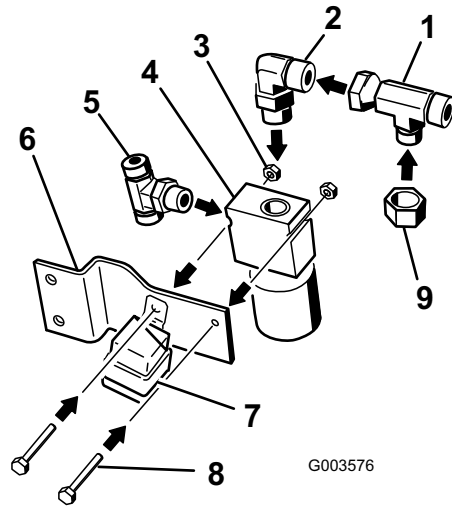

Figure 11
1. Install the fittings at the angles shown in the figures. Install the tee fitting to the side of the valve. Refer to Figure 11 for the correct tee fitting.
2. Install a small 90 degree elbow to the top of the valve (Figure 11).
3. Install the tee adapter to the 90 degree elbow. Refer to Figure 11 for the correct tee fitting.
4. Install the cap onto the tee adapter (Figure 11).
6. Install the valve to the valve bracket with 2 bolts (1/4 x 1–3/4 inches) and 2 nuts (1/4 inch) (Figure 11).